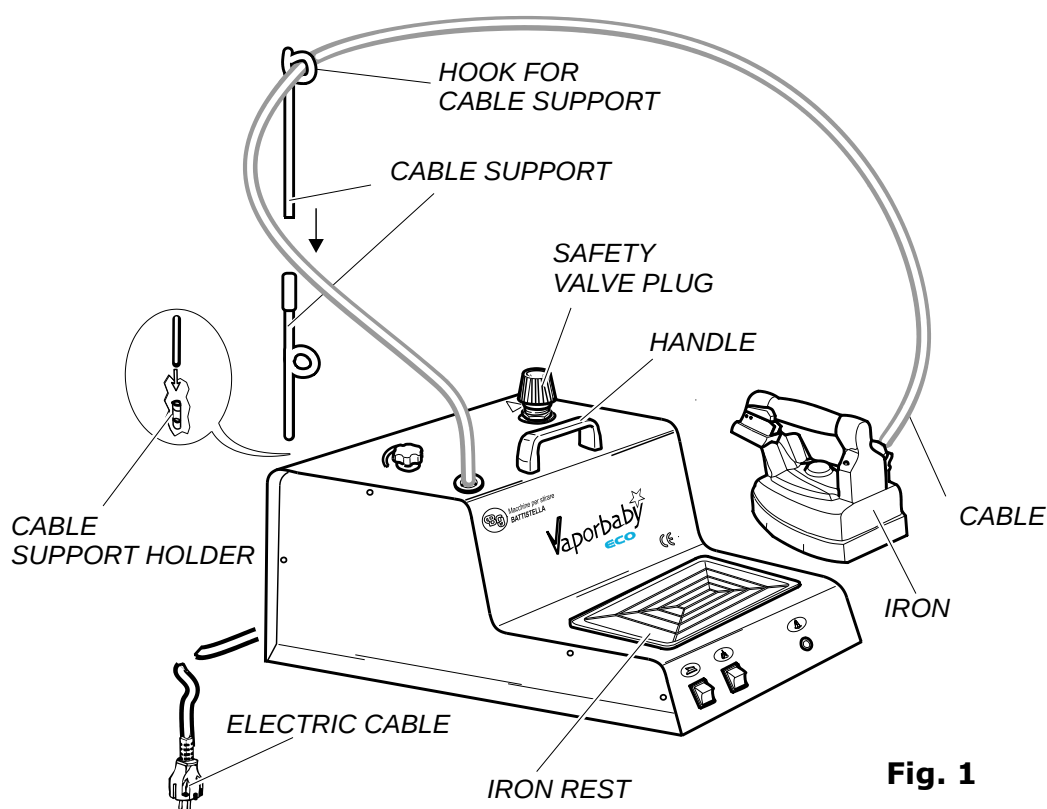
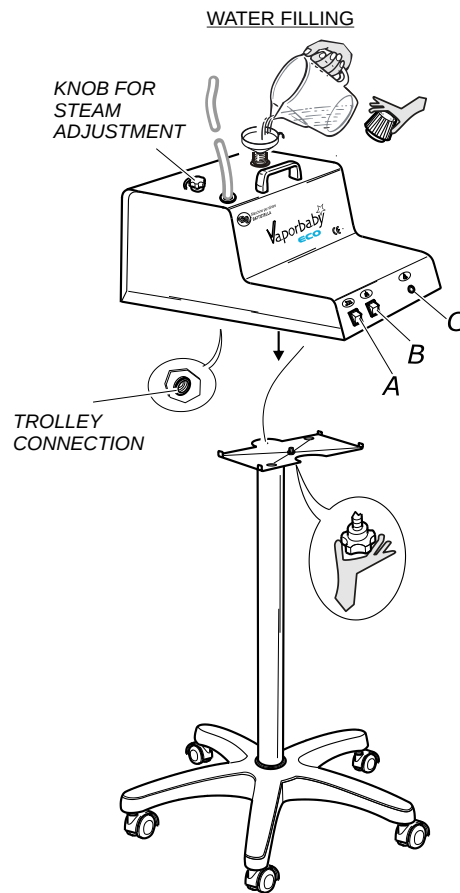
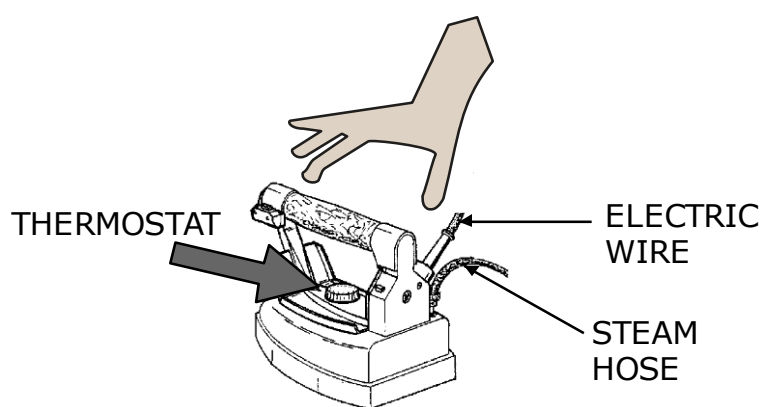
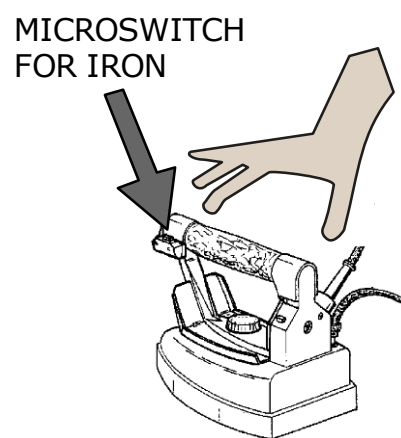

Fig. 1
Fig. 2
Fig. 3
Fig. 4
Before installing VAPORBABY ECO INOX, it is necessary to set up a protected electrical socket suitable to its power (it is better to use an earth protector magneto-thermic switch 16 A Id 30 mA). For the transport and the movement of VAPORBABY ECO INOX, take the generator only by the specific handle. Never pull its electric wires (fig. 1).
2. Remove VAPORBABY ECO INOX from the box, mount the two pieces of the cable support and insert it deep into the special support holder (fig. 1) placed on the back of the generator.
4. Place the iron on the rubber iron rest supplied with the machine (fig. 1).
5. For VAPORBABY ECO INOX supplied with trolley: screw the trolley knob on the proper connection under the base of the VAPORBABY ECO INOX (fig. 2).
1. Unscrew the safety valve plug of VAPORBABY ECO INOX (fig. 1) and fill the boiler with water to the desired level (fig. 2) paying attention not to overfill it. It is advisable to use a funnel. Take the plug by the plastic part and screw it again: do not tighten too much or its gasket might get spoilt (see section 7).
3. Switch on the boiler (fig. 2 B) and the iron switch (fig. 2 A) and adjust the thermostat of the iron (fig. 3) on "cotton".
4. Wait for the boiler lamp to switch off (fig. 2 C). At this point seize the iron by cork handle and press the micro-switch of the iron (fig. 4) for 4 or 5 times, so that steam comes out. It is important to make sure that the steam is saturated (by pressing the micro-switch with the iron pointed towards the floor). It is also possible to adjust steam flux by turning the regulation knob (fig. 2). Now everything is ready for ironing. During ironing operation, the boiler lamp switches on and off signalling that the machine is working properly (fig. 2 C).
11. **Never replace the safety valve plug (fig. 1) with other types of plug. N.B. the safety valve plug is set at 4,5 bar and it has the function of a safety valve.**
1. Run the iron on garments, pressing the micro-switch of the iron at intervals (fig. 4) so that steam comes out.
3. During ironing operation, always put the iron on its rubber rest (fig. 1).
4. For dry ironing it is possible to adjust the thermostat (fig. 3) on different positions according to the type of fabric (look at garment label). For steam ironing set the thermostat on "cotton" or "linen" (**N.B.:** the thermostat of TULIPANO irons must be set between "wool" and "cotton").
5. When VAPORBABY ECO INOX is used with a non-vacuum board, some circular water spots might form. In this case, reduce the steam flux by adjusting the knob for steam adjustment (fig. 2). It is recommended to combine the machine with a vacuum and heated ironing board.
When the water in the boiler is over, the lamp "no water" switches on. At this point disconnect the plug, rotate the valve plug (fig. 1) of 360° and wait for steam to go out completely. Unscrew the valve plug with care and wait 5/10 minutes.
Fill the boiler up to the desired level (fig. 2) paying attention not to overfill it (see section 4 point 1). Screw the safety valve plug again, connect the plug and wait for the boiler lamp to switch off (fig. 2 C). Now the iron is ready again.
Unscrew the safety valve plug (fig. 1) and rotate the VAPORBABY ECO INOX rightwards so that water and possible impurities come out.
3. the steam tube and iron cable once they seem damaged (fig. 3);
4. the safety valve plug every 2500 hrs. or maximum every 3 years (fig. 1).
6. iron overheating or loss of water from iron (fig. 3);
7. washing or cleaning the iron using water (fig. 3);